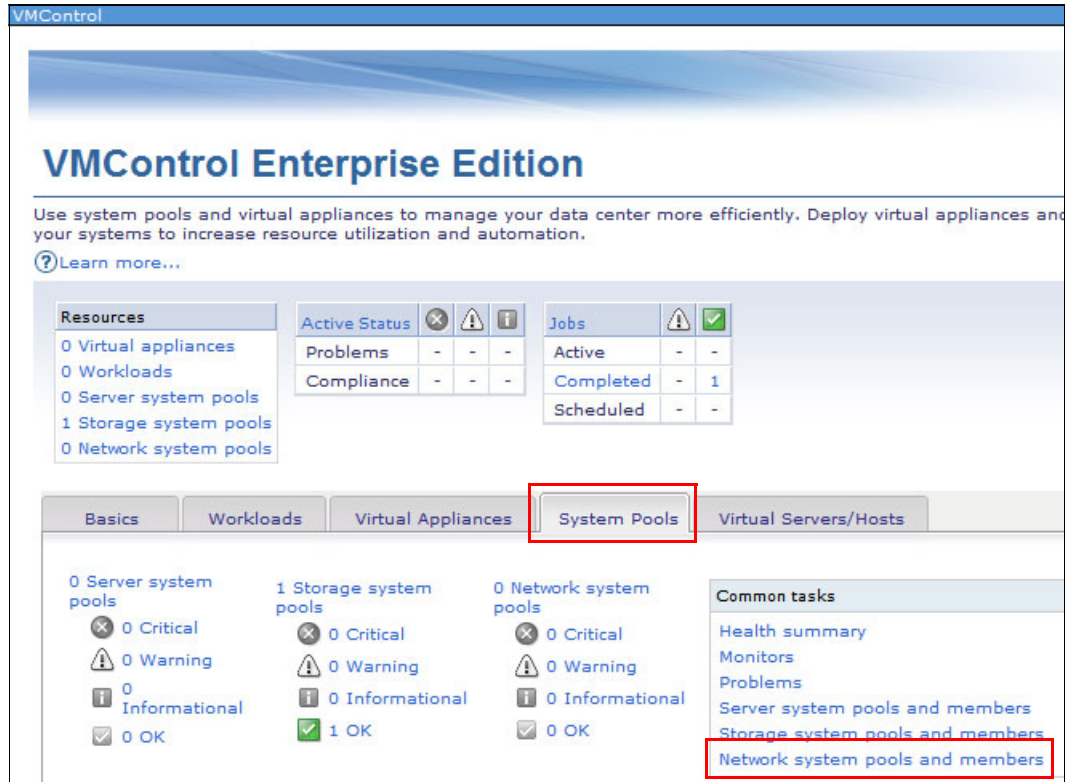

Figure 9-77 VMControl main window
1. In the VMControl main window, click the **System pools** tab, then click **Network System Pools and Members**, as shown in Figure 9-77 on page 359.